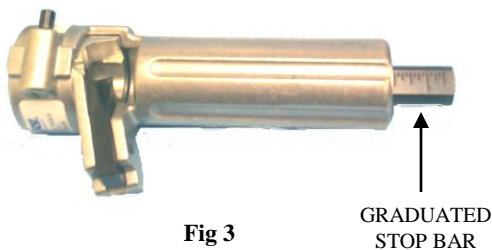

Fig 3
**Step 3.** (Fig. 3) To adjust the stop bar for desired length of conductor exposure, loosen set screw located on the underside of the graduated stop bar on the tool body. Adjust the stop bar to the desired length of insulation to be stripped and tighten the set screw.